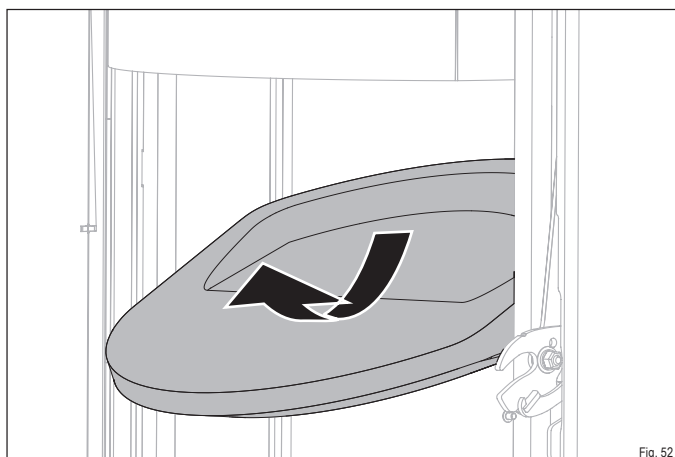

Fig. 52
- ▶ Carefully remove the top firebrick from the retainer as shown (Fig. 52).